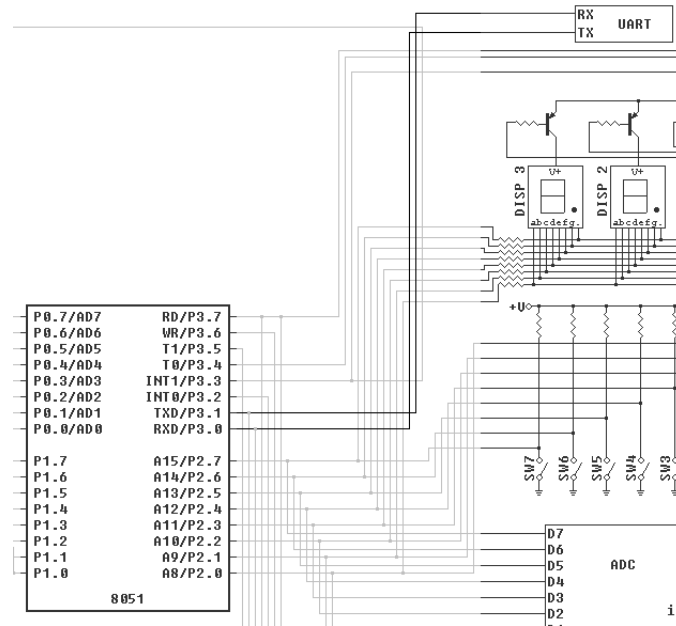

Figure 1.13: Figure showing **circuit diagram for UART**.
**Conclusion :** We developed assembly language code & C code to display name using UART Serial Communication using both Mode 0 & Mode 1. The circuit diagram connecting 8051 with UART is shown in figure 1.13.